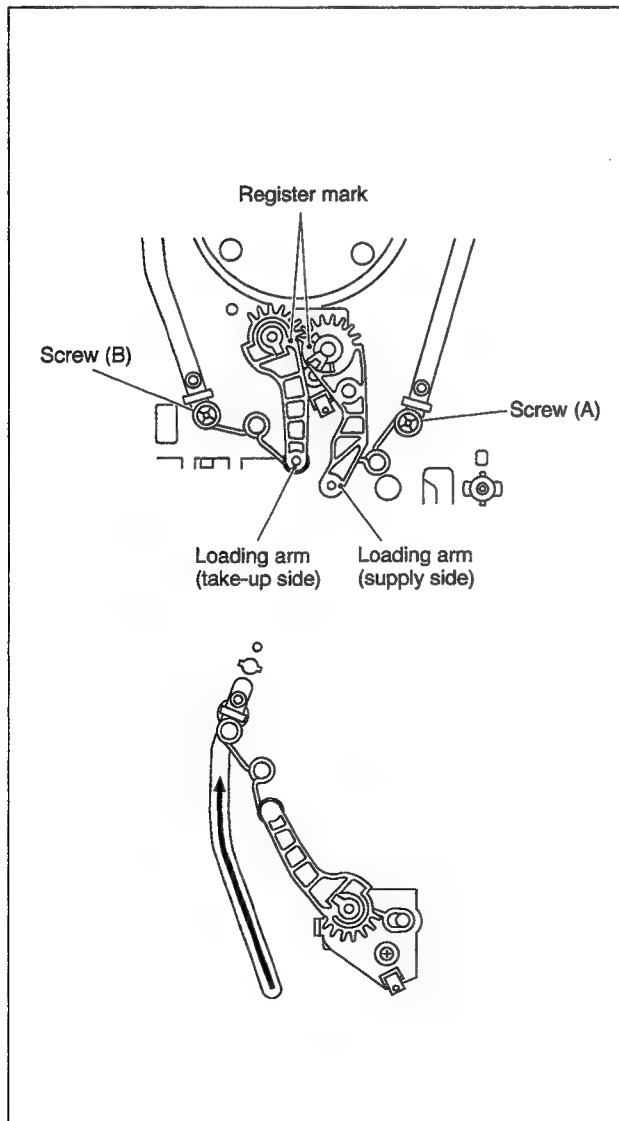
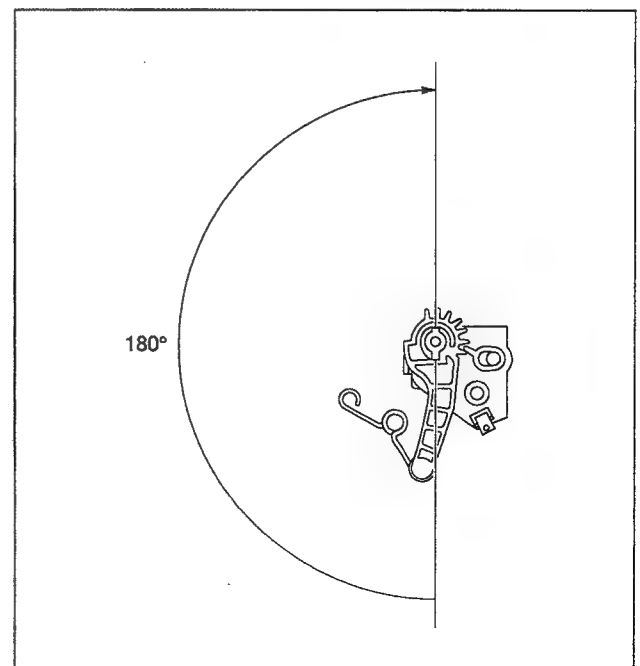

Fig. 2-2-26
Fig. 2-2-28
- (1) Remove the loading arm (on the supply side) by loosening screw (A) in Fig.2-2-26.
- (2) Remove screw (B) in Fig.2-2-26 and slide the pole base in the loading direction with the spring held on the pole base (on the take-up side). (See Fig.2-2-26)
- (1) Install the loading arm (on the take-up side) as indicated in Fig.2-2-28 and turn it clockwise through 180 degrees so that the loading arm reaches the bottom of the loading arm gear shaft.
- (2) Then turn the loading arm (on the take-up side) counterclockwise through 180 degrees. Hang the spring on the pole base and tighten the screw.
- (3) Install the loading arm (on the supply side) so that the register mark of the loading arm (on the take-up side) is in alignment with the register mark of the loading arm (on the supply side). Then hang the spring on the pole base and tighten the screw. (See Fig.2-2-26).